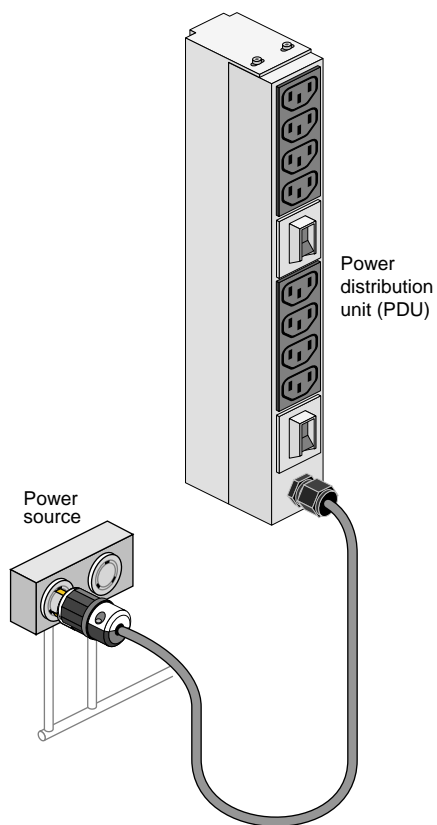
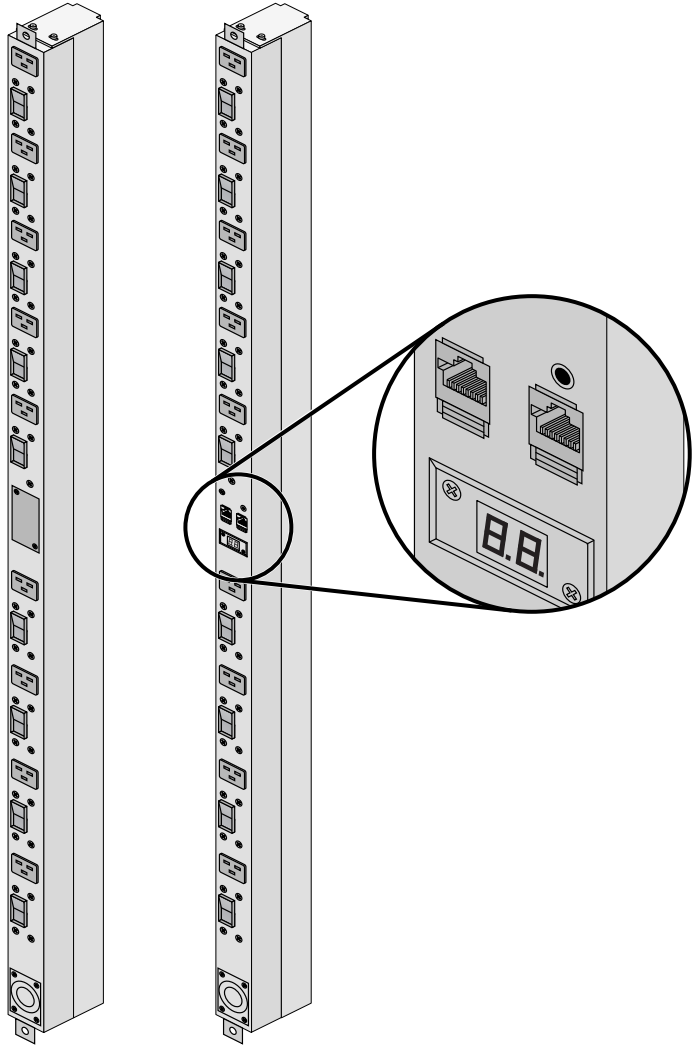

Figure 1-4 Eight-Outlet Single-Phase PDU Example
Figure 1-5 Three-Phase PDU Examples
4. Make sure that all PDU circuit breaker switches (see the examples in Figure 1-4, and Figure 1-5 on page 7) are turned on to provide power when the system is booted up.
Figure 1-5 on page 7 shows an example of the three-phase PDUs.